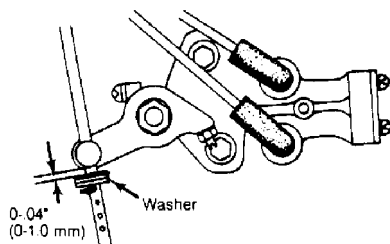

Fig. 33: Adjusting Metering Pump Control Rod
1) Check and adjust clearance between metering pump lever and washer. See Fig. 33. Clearance must not exceed .04" (1.0 mm).
2) Check and adjust clearance of metering pump rod at pump lever. See Fig. 33. Clearance must not exceed .04" (1 mm).